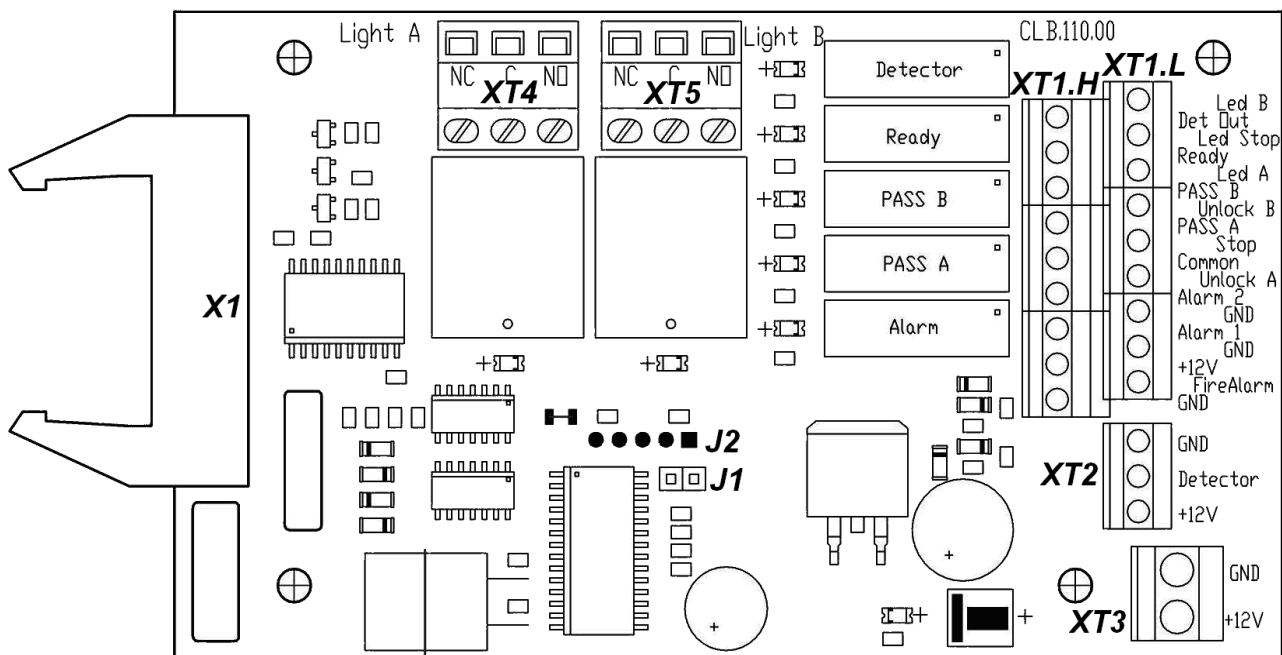
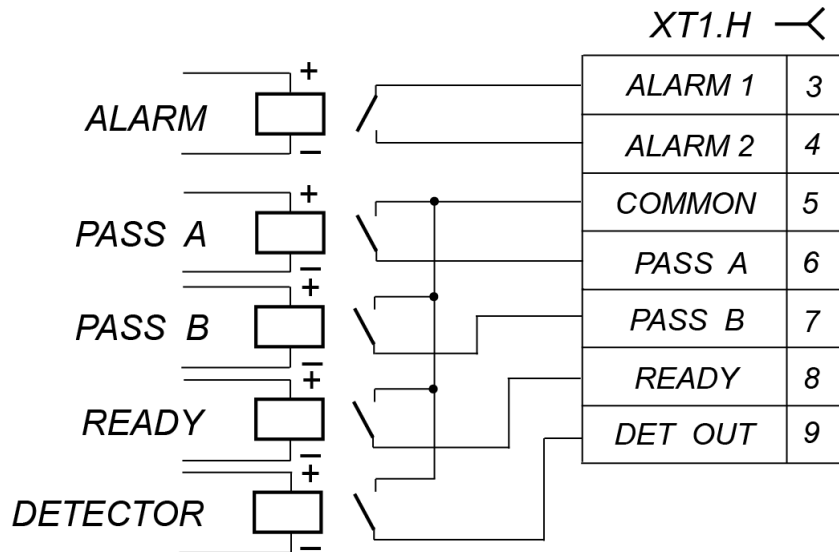
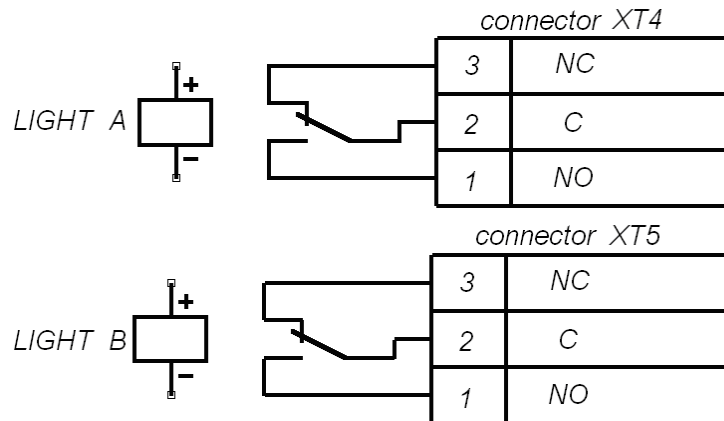

Figure 5. Control Logic Board (CLB)
Figure 8. Output cascades for PASS A, PASS B, Ready, Det Out and Alarm
Figure 9. Output cascades for Light A and Light B
The RC panel is connected to the CLB with a multicore cable (11) via the **XT1.L** connector block (See Fig. 5 and Fig. 12).
If the turnstile orientation relatively to the operator’s terminal is not standard (e.g. the terminal is placed at the backside of the turnstile housing), the RC panel orientation towards the turnstile can be changed by exchanging places of the RC wires to the contacts *Unlock A* and *Unlock B* as well as contacts *Led A* and *Led B* accordingly (see Fig. 5 and Fig. 12).
The CLB (Fig. 5) contains:
Connection of the devices is made with the cable (11) to the corresponding connector blocks **XT1.L** or **XT1.H** of the CLB in accordance with the connection layout (Fig. 5 and Fig. 12).
Pin assignments of the CLB connector blocks are given in Fig.5 and on a label located on the inner surface of turnstile cover (2) with LED indication display.
(contacts *Alarm 1* and *Alarm 2*) have normally open contacts. The *Common* contact, at that, is not connected to the CLB power supply negative terminal. In the initial (inactive) state, when the power is on, the relay contacts *PASS A*, *PASS B*, *Ready* and *Detector* are closed (voltage is supplied to the relay coil) and the *Alarm* relay contacts are broken (voltage is not supplied to the relay coil). The CLB relay operation / release is indicated by lighting up/going down of the red test indicators located near the corresponding relays (Fig. 5). The output cascades for *PASS A*, *PASS B*, *Ready*, *Det Out* and *Alarm* are the contacts with the following signal characteristics (Fig. 8):
The control mode is set by the jumper on the **J1** connector (the **J1** connector location is shown on Fig.5 and on a label located on the inner surface of turnstile cover (2): the jumper is fixed — the pulse control mode, the jumper is not fixed – the potential control mode. The jumper is fixed at the factory before the delivery.
The intrusion detector is connected to the **XT2** connector block, and the siren is connected to the **XT1.H** connector block of the CLB according to the connection layout (Fig.5 and 12). There should be normally closed contacts on the intrusion detector.
The intrusion detector status signal is constantly transmitted to the *Det Out* and *Common* contacts of the CLB **XT1.H** connector block (Fig. 5).
The emergency unblocking device is connected to the **XT1.L** connector block of the CLB in accordance with the connection layout (Fig. 5 and 12). If the *Fire Alarm* input is not used, it is necessary to set a jumper between the contacts *Fire Alarm* and *GND*. This jumper is preset at the factory.
arrow” pictogram on the LED indication display, corresponding to the set passage direction, lights, and it is passive, when the “Green arrow” pictogram on the Led display does not light. The response/release of the relays **Light A** and **Light B** can be defined according to lighting up/going down of the red indicators, which are installed near the above mentioned relays (Fig. 5). Output cascades for the **Light A** and **the Light B** relays are nonbridging relay contacts (Fig. 9) with the following signal characteristics: